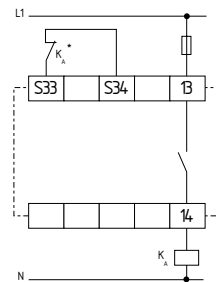

Fig. 11
**Single-channel control with feedback circuit (see Fig. 11)**